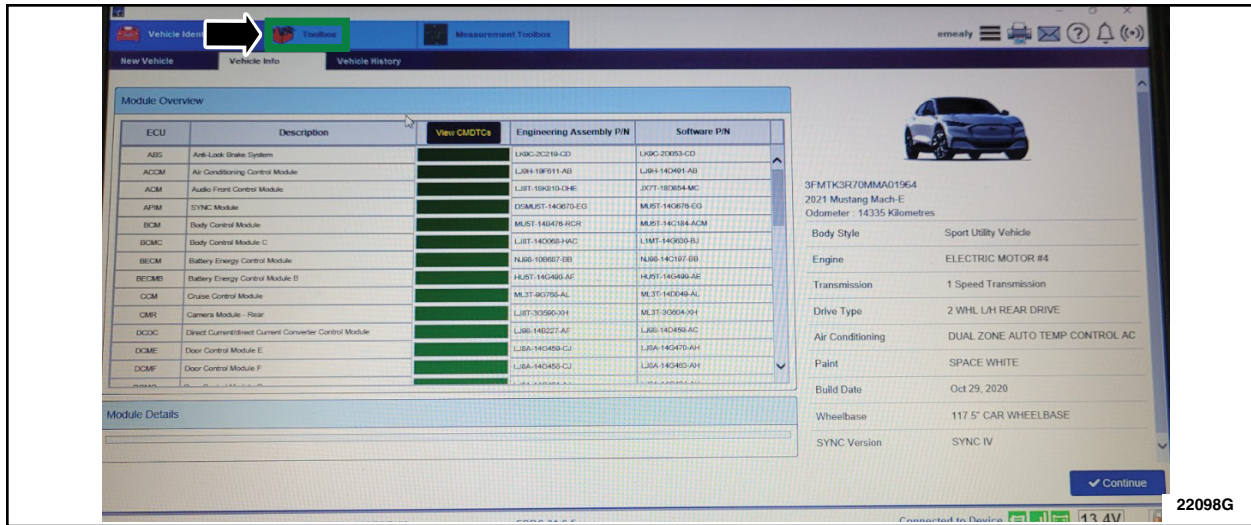

FIGURE 2
6. Select Toolbox tab. See Figure 2.